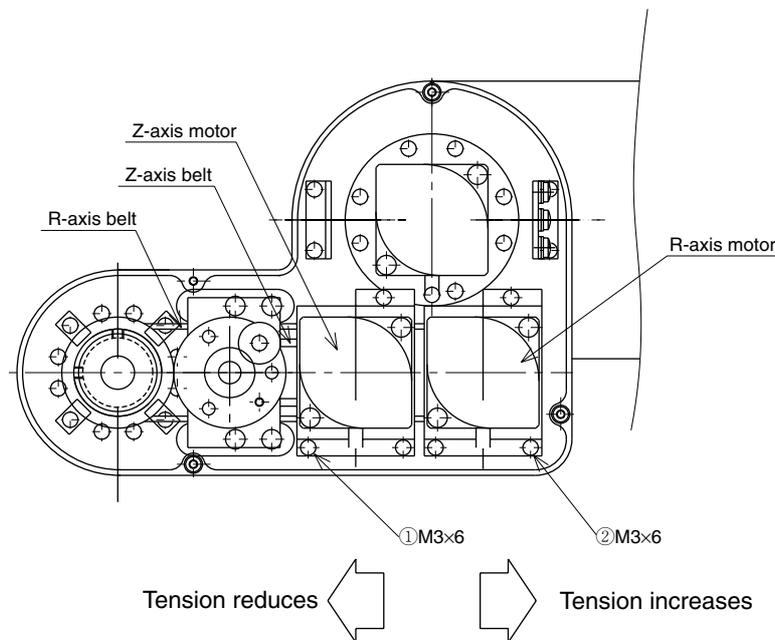

Fig. 4-31 YK250X(H), YK350X(H), YK400X(H)
1. Loosen the bolt ① shown in Fig. 4-31.
1. Loosen the bolt ② shown in Fig. 4-31.
- 9) After adjustment is complete, tighten the bolt ① or ② to the torque specified in Table 4-11.